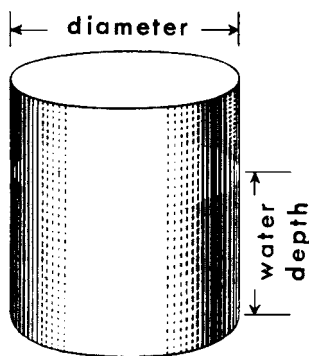

Fig. 9-4 Calculating the amount of water in a round tank. (Virginia Chemicals)
1. Measure the diameter of the tank and the depth of the water in feet. See Fig. 9-4.